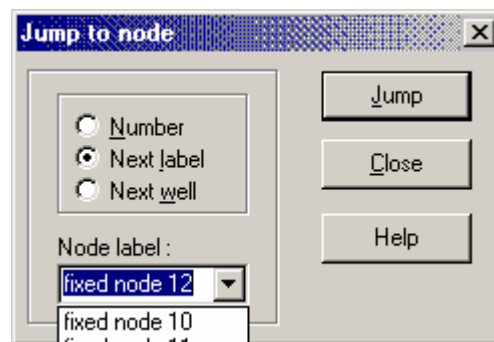

Figure 18: "Jump-to" pop-up window
3. Click on the -button (Jump to node) or press F12. A pop-up window appears (Figure 18):